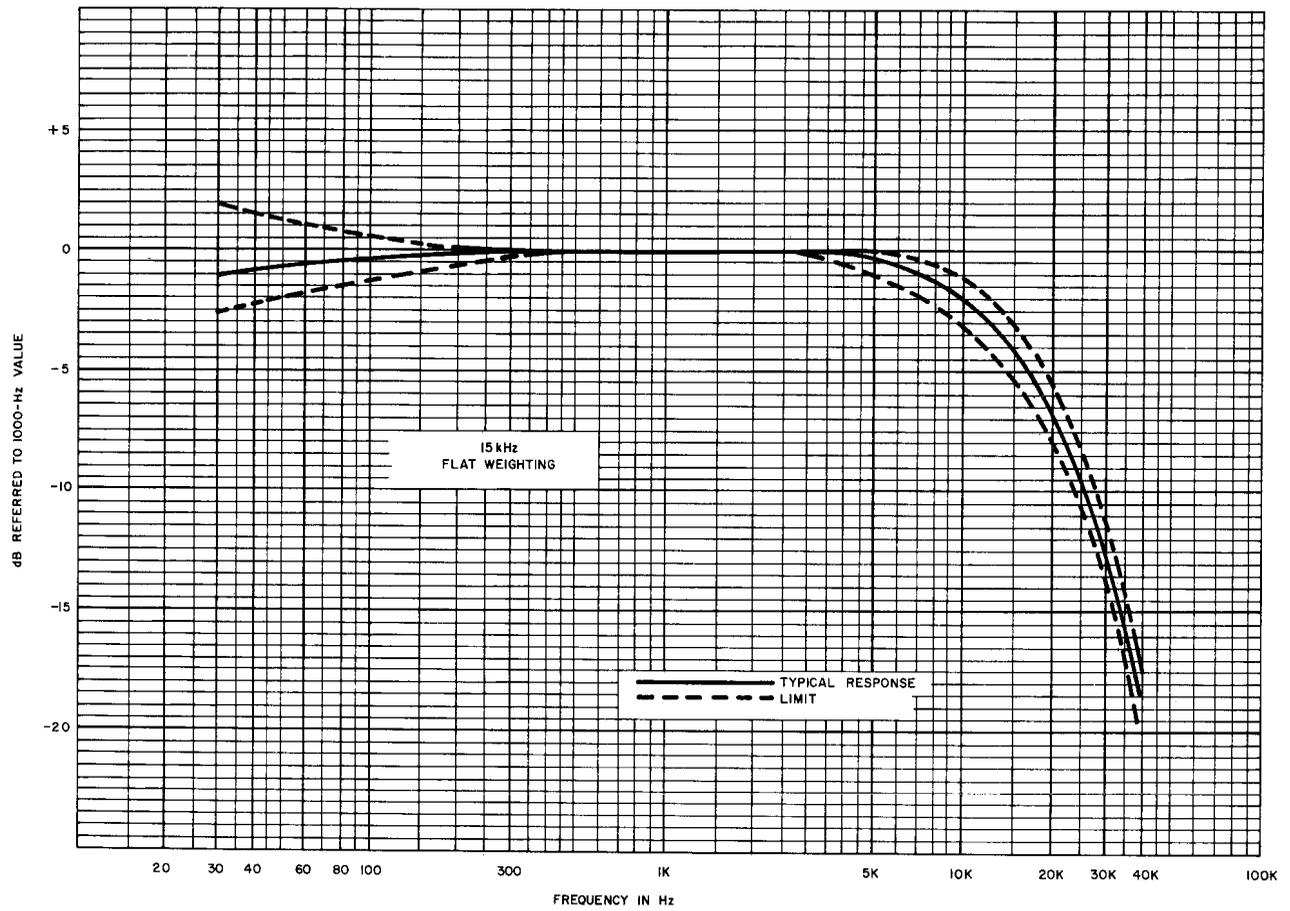

Fig. 8—15-kHz Weighting Characteristic Curve
3.06 The typical 15-kHz flat weighting frequency characteristic, including manufacturing tolerances, is given in Fig. 8, which shows the nominal frequency response of the overall set, exclusive of any frequency shaping as determined by the weighting networks. This 15-kHz flat weighting (15 KC FLAT) network is packaged in the 497B plug-in unit. This network provides a loss equal to the insertion loss at 1 kHz of the other networks without introducing additional